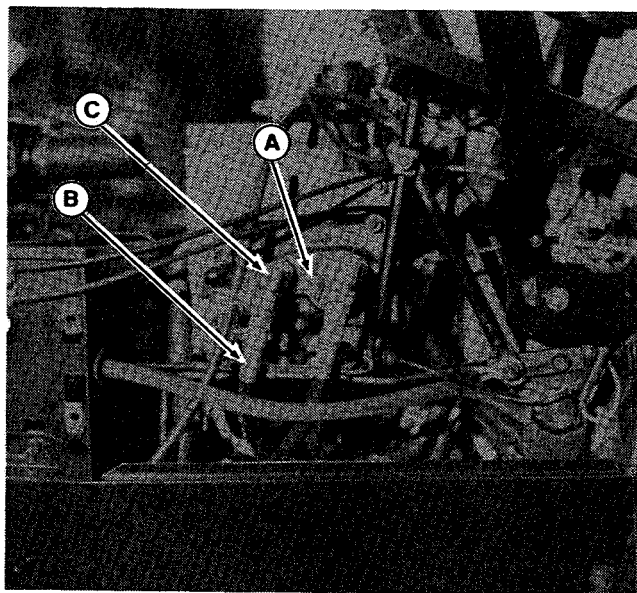

Figure 1.
- a. Remove the upper left-hand panel from the tractor to expose the valve (A, figure 1).
- b. Notice there are two elbows on left side of valve. Disconnect the hose (B) from the front elbow (C). Remove the elbow (C).
- d. Reinstall the elbow (C) and then connect the hose (B). Tighten the nut on the elbow securely, after elbow is properly positioned.